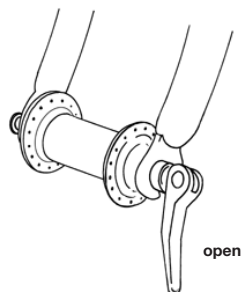

Fig. 10b
- 1 Move the quick-release lever so that it curves away from the wheel (fig. 10b). This is the OPEN position.
- 4 Move the quick-release lever to the OPEN position (fig. 10b).